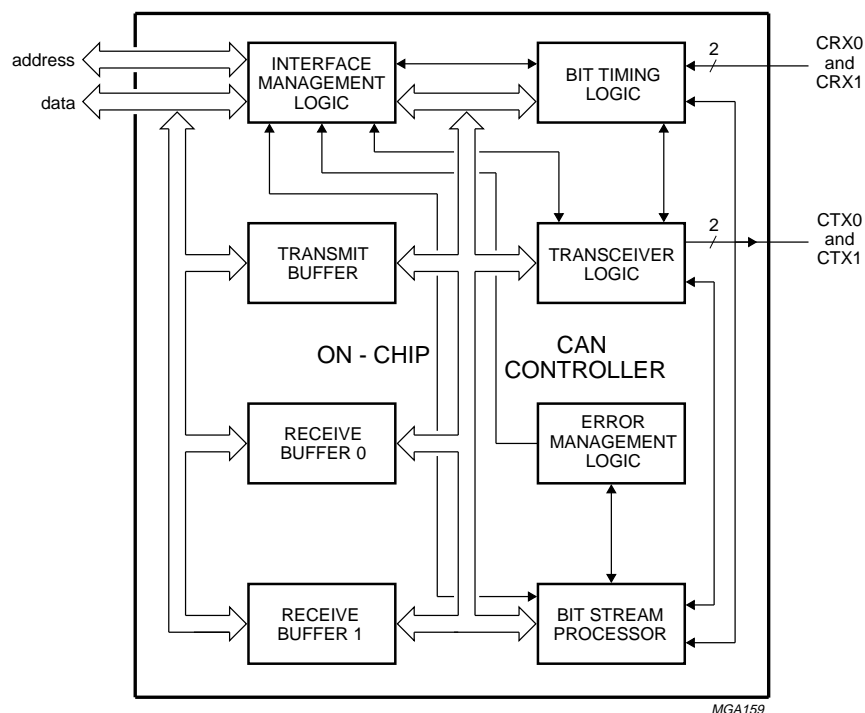

Fig.14 Block diagram of the P8xCE598 on-chip CAN-controller.
The P8xCE598 CAN-controller contains all necessary hardware for high performance serial network communications (see Fig.14 and Table 29).
**Table 29** Hardware blocks of the CAN-controller (see Fig.14)